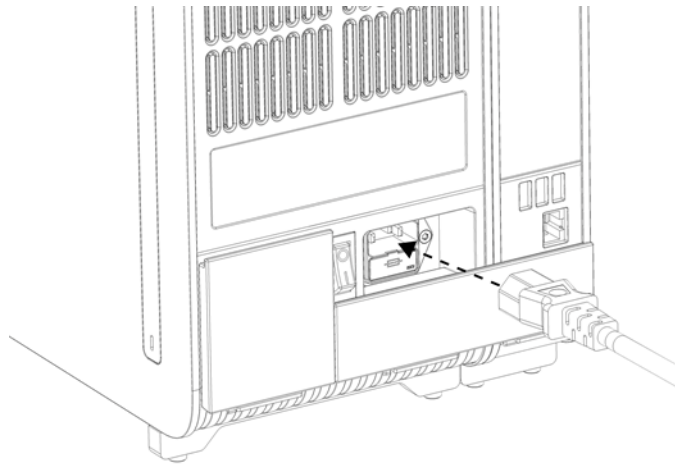

Figure 10. Connecting the power cord.
7. Connect the power cord that was delivered with QIAstat-Dx Analyzer 2.0 to the back of the Analytical Module (Figure 10).